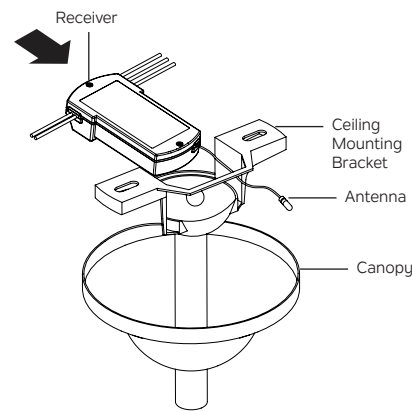

Fig. 1
Step 1. Insert the receiver into the ceiling mounting bracket with the flat side of the receiver facing the ceiling. (**Fig. 1**) For best performance, make sure the black antenna wire (on the end of the receiver) remains extended, and does not become tangled with the electrical wires.